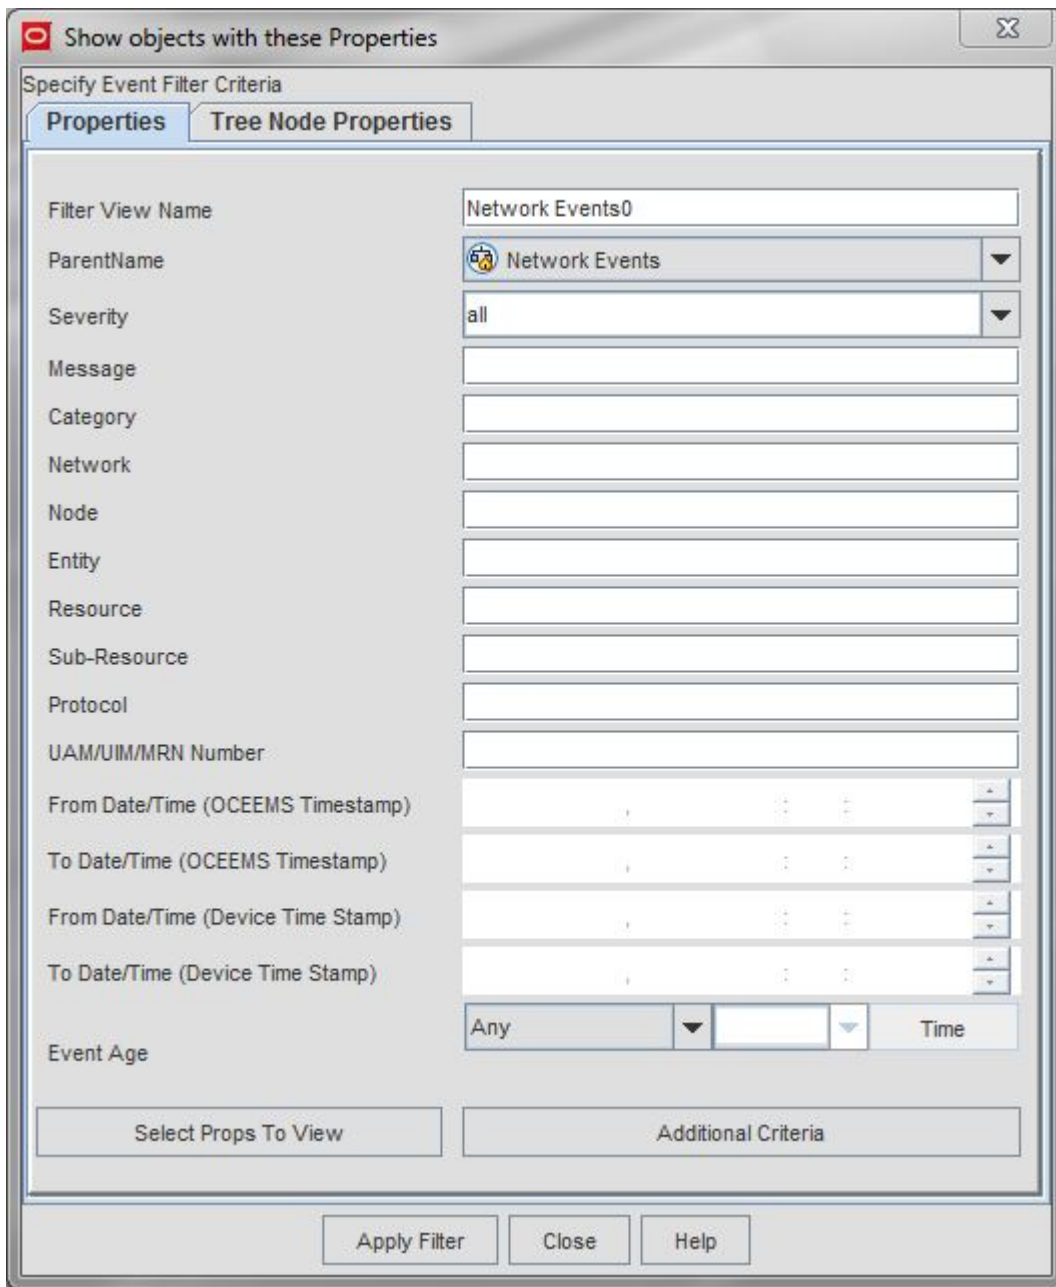
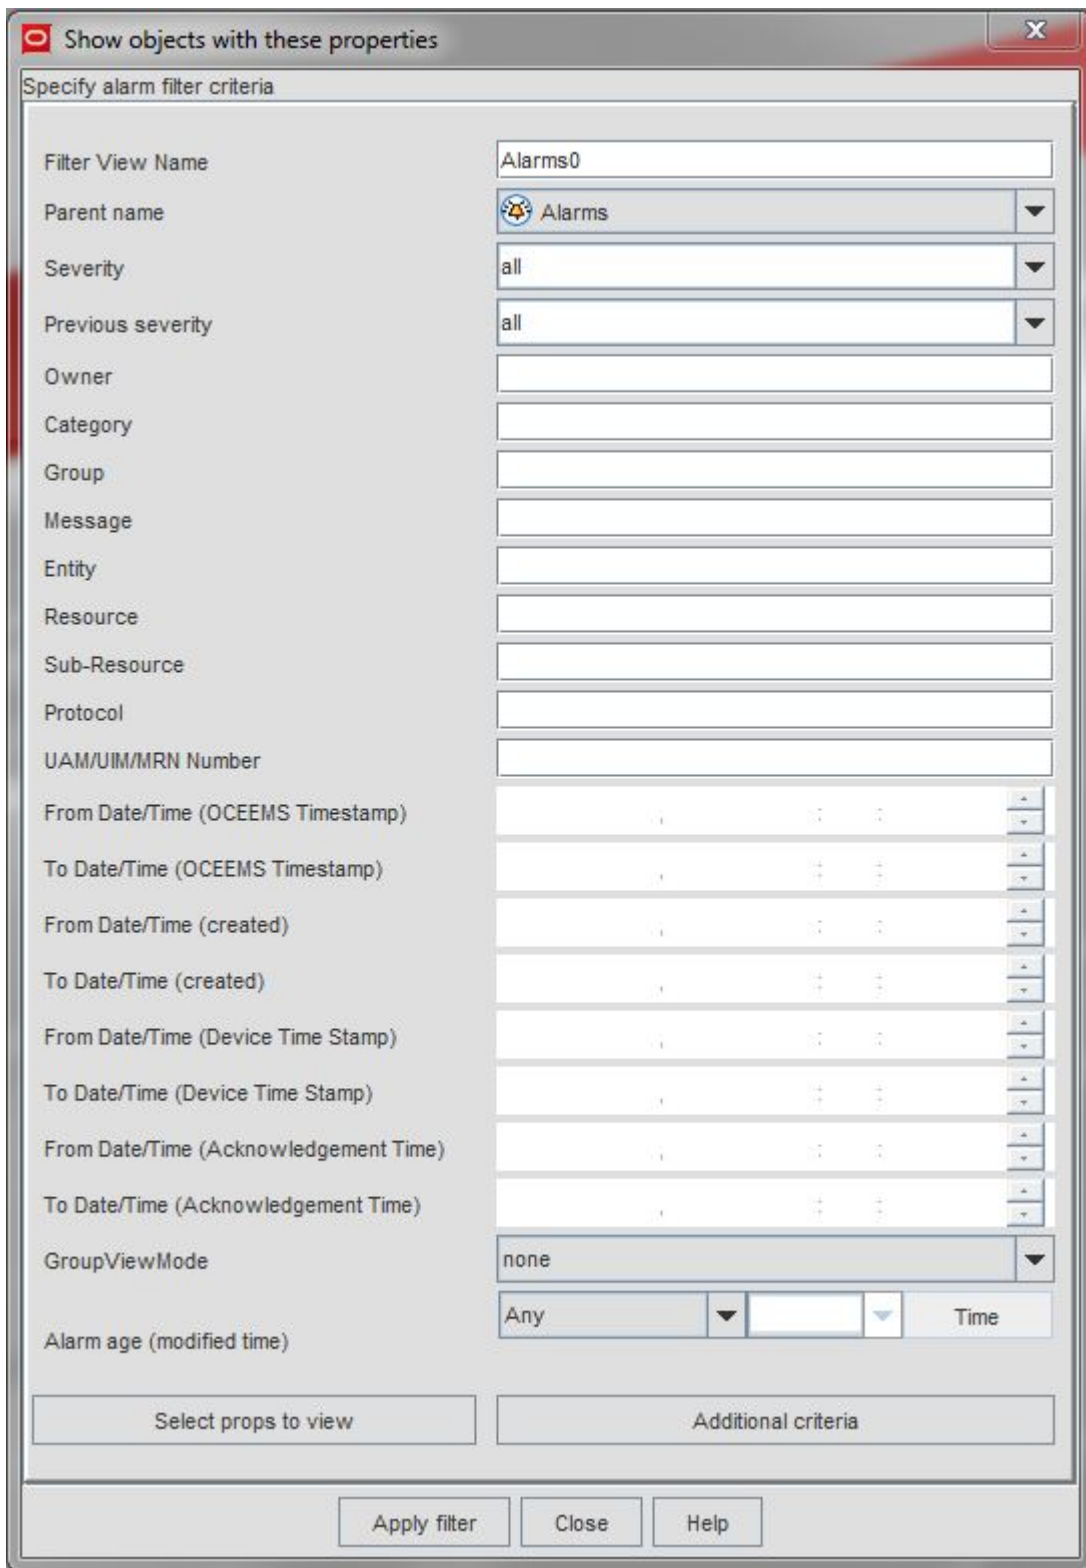

Figure 119: Specify Event Filter Criteria
Figure 120: Specify Alarm Filter Criteria
If the Network Events node was selected, then a **Show object with these Properties** dialog box with the title **Specify Event Filter Criteria** is displayed, as shown in Figure 119: Specify Event Filter Criteria. If the Alarms node was selected, then a **Show object with these Properties** dialog box with the title **Specify alarm filter criteria** is displayed, as shown in Figure 120: Specify Alarm Filter Criteria.
1. During custom view creation/modification, on the **Show object with these Properties** dialog box shown in Figure 119: Specify Event Filter Criteria and Figure 120: Specify Alarm Filter Criteria, click the **Select Props To View** button.